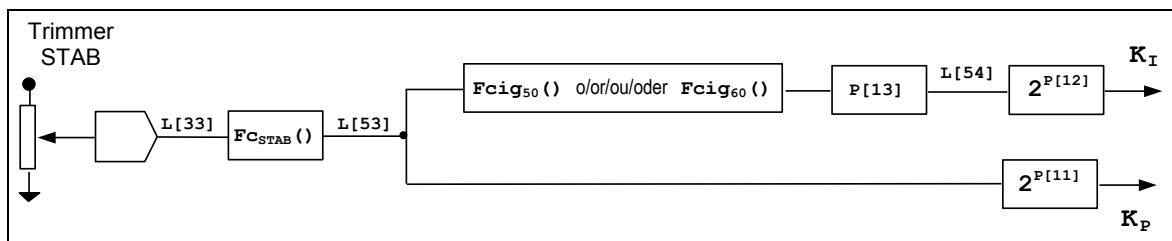
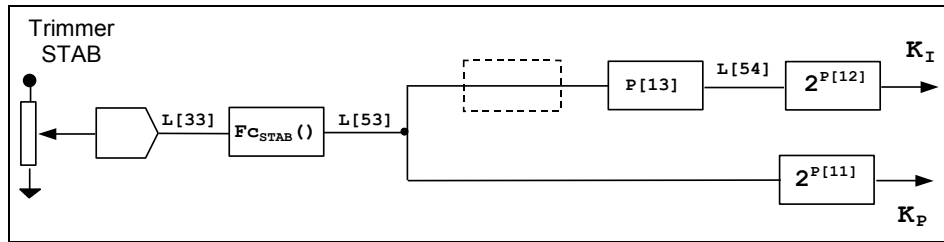
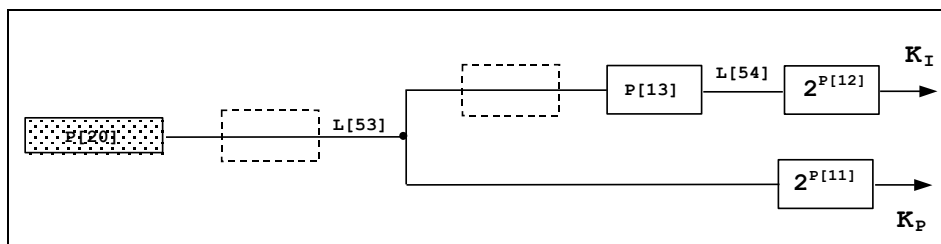

fig. 7a: drawing of the numeric elaboration of the proportional and integral gain by a DSR (standard) with the STAB trimmer enabled
fig. 7b: drawing of the numeric elaboration of the proportional and integral gain by a DSR/A with the STAB trimmer enabled
fig. 7c: drawing of the numeric elaborations of proportional and integral gain by all DSRs with STAB trimmer disabled
The numeric elaborations carried out by the DSR for obtaining the proportional and integral gain values are given in the block diagrams in figures 7a(2), 7b(2) and 7c.
If the STAB trimmer is enabled (STAB Flag Trimmer present) its angular position, available at location L[33], is transformed by the  $F_{C_{STAB}}^{(2)}$  function into the numeric value available at location L[53](3) (figs. 7a and 7b). If the STAB trimmer is disabled, the value of location L[53](3) directly becomes the value set using the P[20] parameter (fig. 7c). The proportional gain  $K_P$  is obtained by multiplying the value of location L[53](3) by a coefficient that depends on the value given in parameter P[11](4).
The integral gain, available at location L[54](3) minus the multiplication by a coefficient, depends on the value of the proportional gain at location L[53](3); in the standard DSR (grey box) with the STAB trimmer enabled (STAB Flag Trimmer present) the value of location L[53](3) at 50Hz is transformed by the function  $F_{cig_{50}}^{(2)}$  and by the multiplication of the value of parameter P[13], in the numeric value available at location L[54](3); at 60Hz the transformation function is  $F_{cig_{60}}^{(2)}$ , different from that at 50Hz, (fig. 7a); in the other versions of the DSR (fig. 7b), for example DSR/A (blue box), or if the STAB trimmer is disabled(4) (fig. 7c), not only is there a difference between the integral value at 50Hz and at 60Hz, but even the value of location L[54](3) is obtained by simply multiplying the proportional gain at location L[53](3) by the value of parameter P[13].